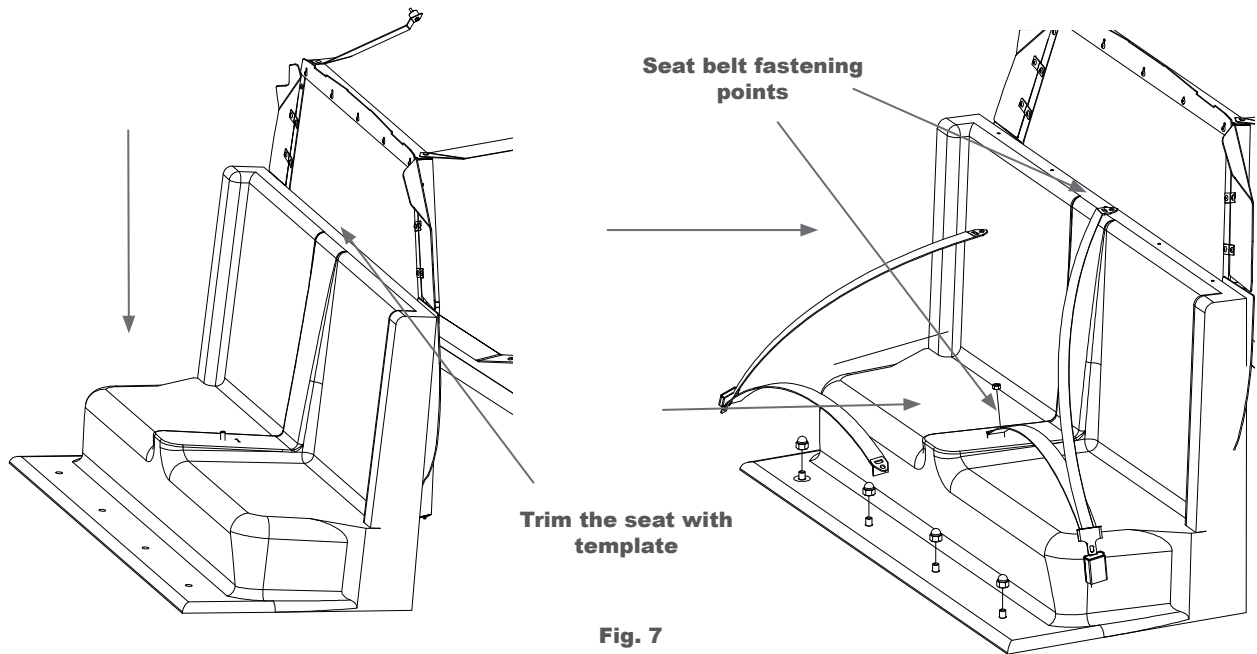

Fig. 7
- B. The seat belts are mounted in two places by the supplied bolts (3X238) and (3X182) nut. One mounting point is in the center of the vehicle coming off of the middle of the transport seat. The other is at the top of the cross bar where the standoffs are located. It is only necessary to start the fasteners at this point and move onto fastening the seat in place. (Fig. 7)